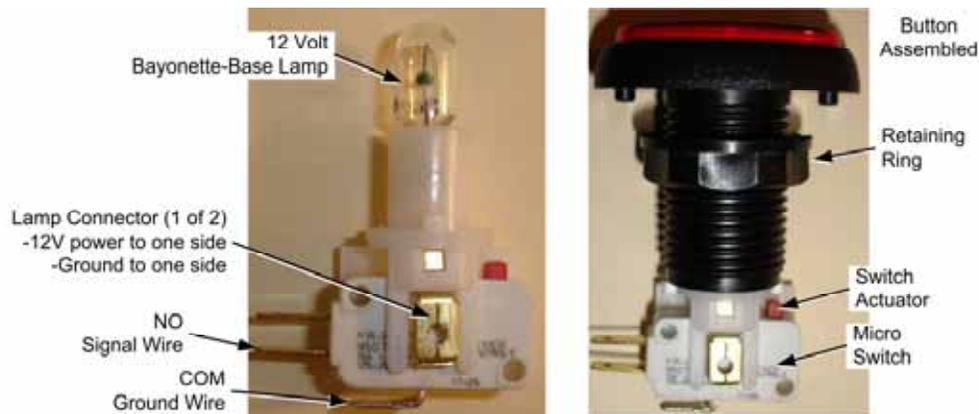

Figure 4. 3D Button Assembly
8. Refer to Figure 4 and connect the spades on the 3D Button Add-On Harness to the switch/lamp assembly as follows: